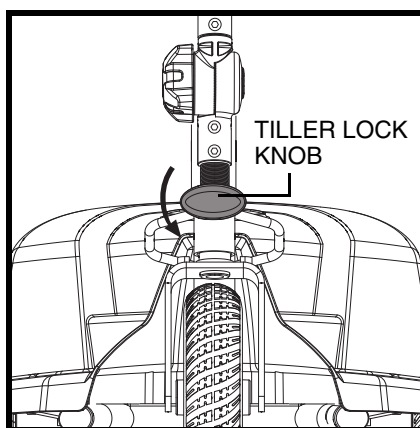

Figure 22. Tiller Lock Knob (Unlocked)
9. Unlock the front wheel by turning the tiller lock knob 90° counterclockwise. **See figure 22.**